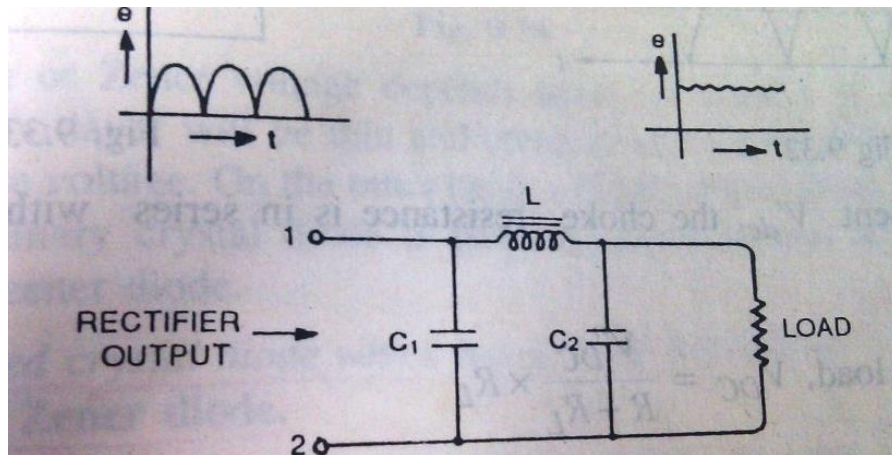

Figure 1.2.15
**Capacitor input filter or  $\pi$  – filter:** Figure 1.2.15 shows a typical capacitor input filter or  $\pi$ -filter. It consists of a capacitor  $C_1$  connected across the rectifier output, a choke  $L$  in series and another filter capacitor  $C_2$  connected across the load. Pulsating rectifier output is applied across the input terminals of filter circuit. Capacitor  $C_1$  offers low reactance to ac but offers infinite reactance to the dc. The choke offers high opposition to the passage of ac components while offers zero reactance to dc. Therefore, it allows dc component appears across the load.